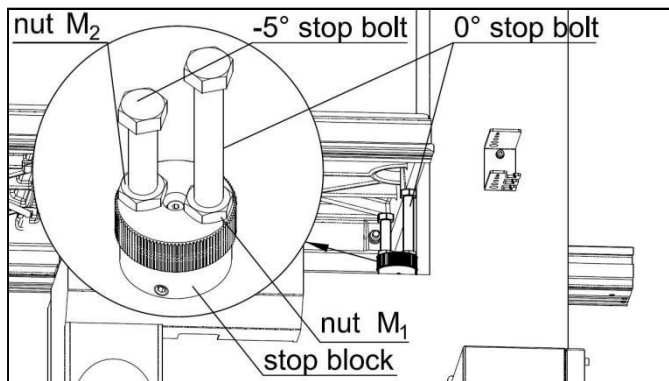

Fig. 7-13
**Note:** To tilt the table within the  $-5^{\circ}$  to  $0^{\circ}$  range, first rotate the limiting block (see Fig. 7-13), to the  $-5^{\circ}$  limit position. To tilt within the  $0^{\circ}$  to  $45^{\circ}$  range, rotate the limiting block to the  $0^{\circ}$  limit position first.
1. As shown in Fig. 7-13, rotate the table stop block until the 0° stop bolt is positioned beneath the table skirt.
1. As shown in Fig. 7-13, rotate the stop block until the -5° stop bolt is positioned beneath the table skirt (the same position previously occupied by the 0° bolt).